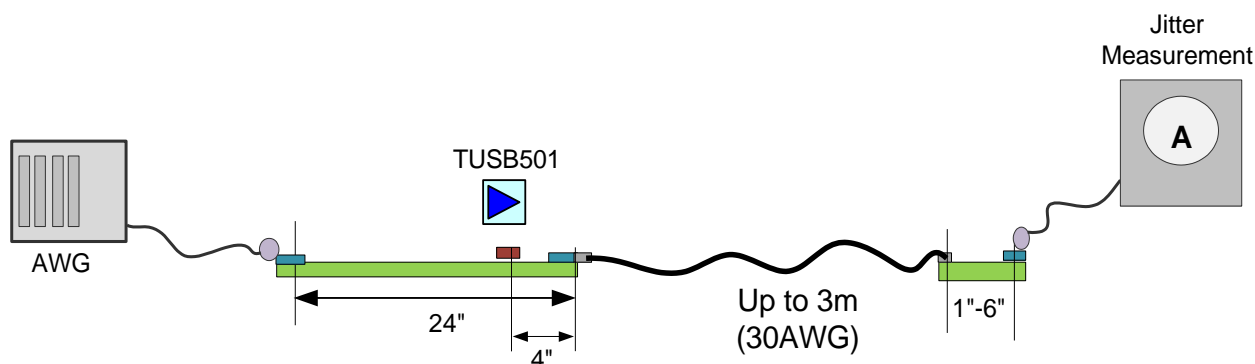

Figure 1. Jitter Measurement Setup
(1) Includes R_J at 10^{-12} .
(2) Measured at the ends of reference channel in Figure 1 with K28.5 pattern, $V_{\text{ID}} = 1000 \text{ mV}_{\text{pp}}$, 5 Gbps, -3.5 dB de-emphasis from source.
(3) UI = 200 ps.
(4) R_J calculated as 14.069 times the RMS random jitter for 10^{-12} BER.